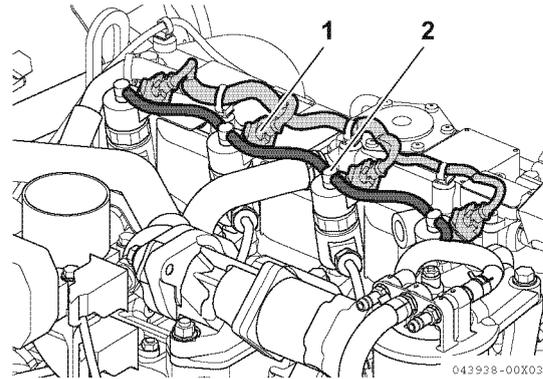

Figure 15-1
3. Remove injector harnesses (couplers) (1, **Figure 15-1**) from all cylinders.
4. Remove the fuel return hose (2, **Figure 15-1**) from the injectors. (See *Removal of Injector* on page 7-9.)